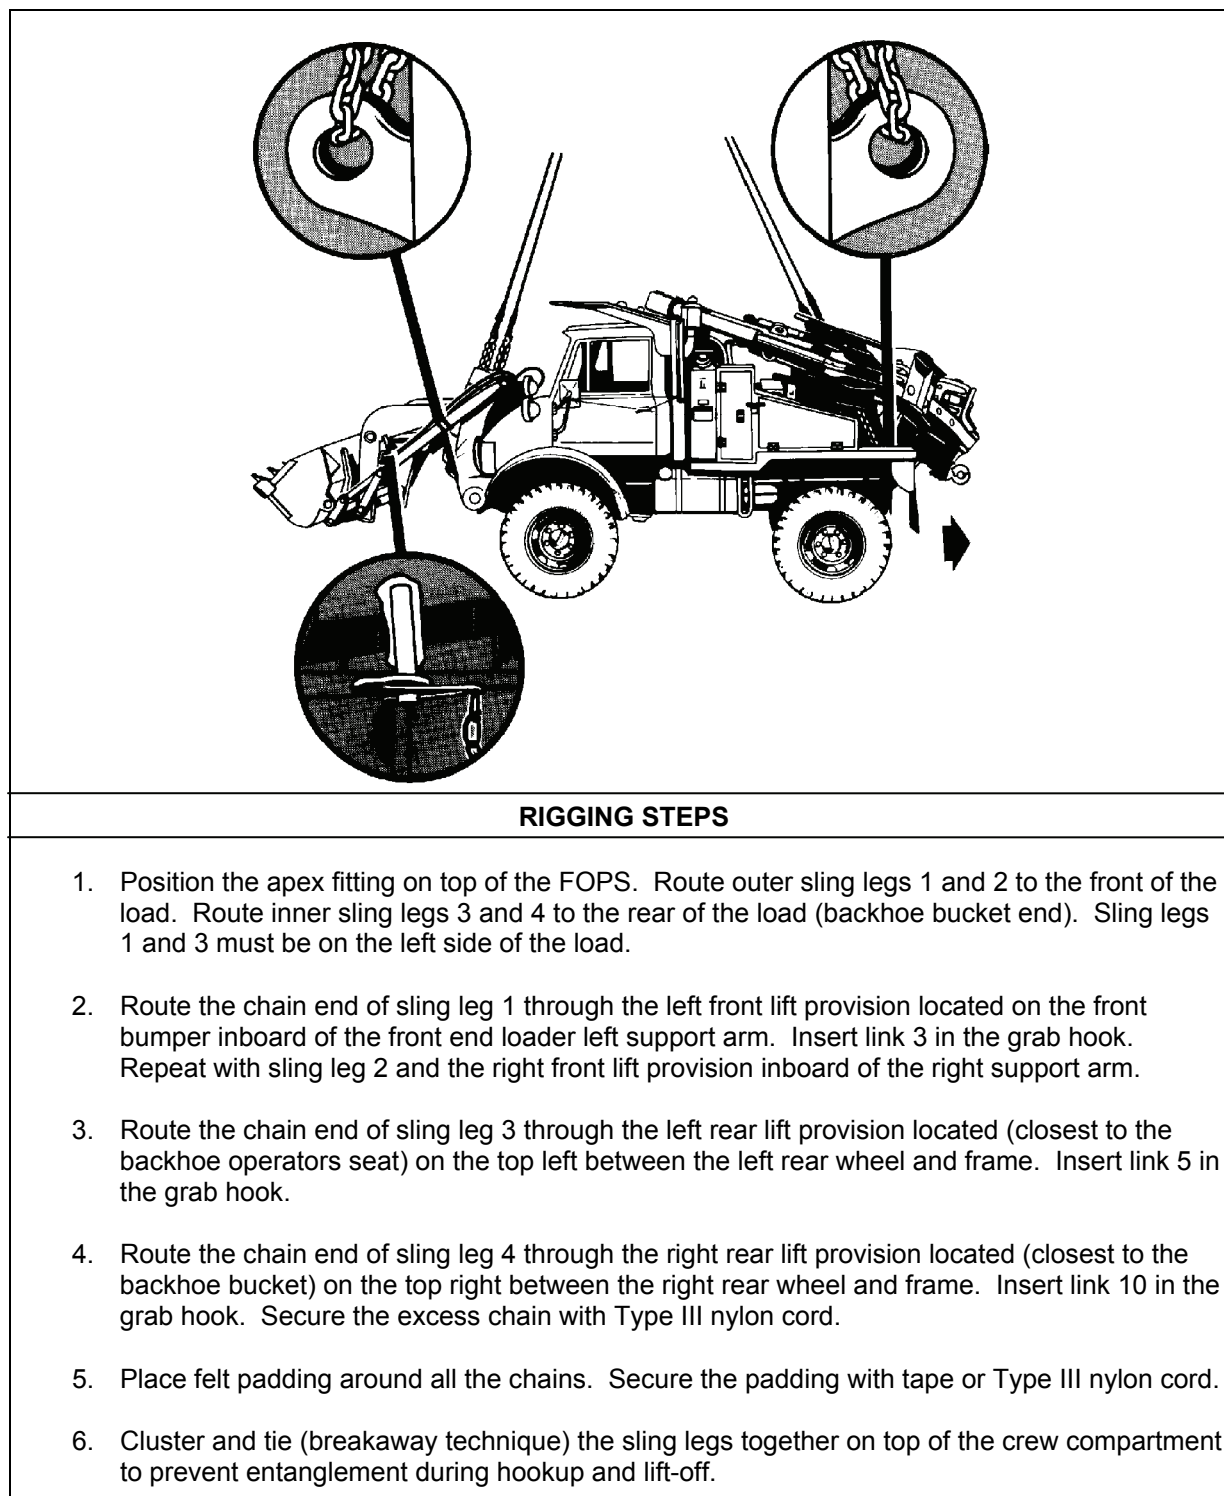

Figure 8-6. Small Emplacement Excavator
- **Rigging.** Rig the load according to the steps in Figure 8-6.